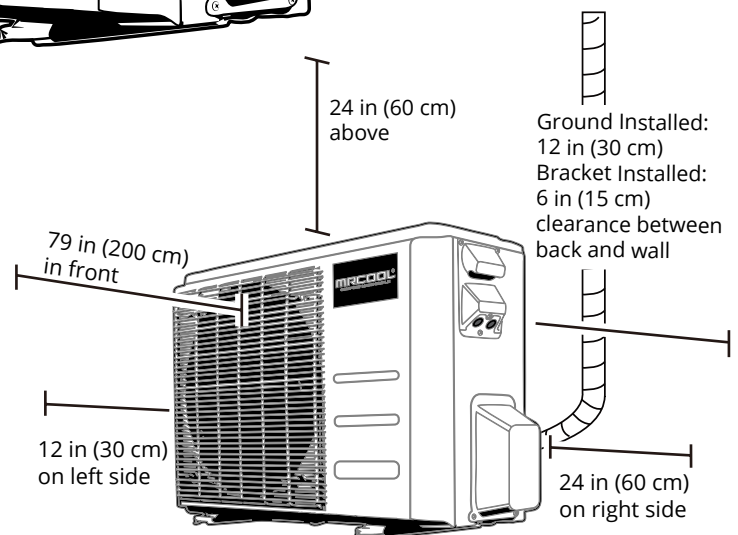

Fig. 5.1
- Meets all spatial requirements shown in Installation Space Requirements (**Fig. 5.1**).